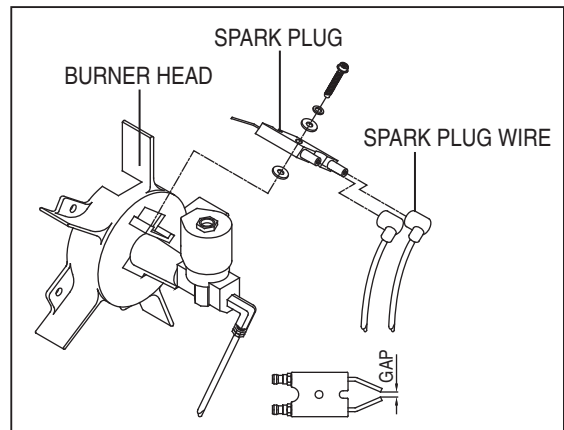

Figure 8. Spark Plug
- Remove spark plug wire from spark plug (See Figure 8)